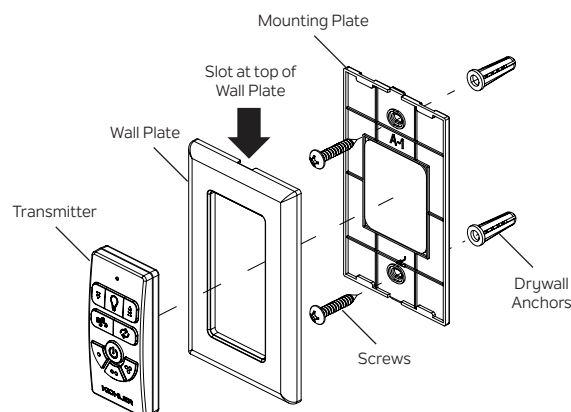

Fig. 8
Step 1. Remove the wall plate from the mounting plate (insert a small, flathead screwdriver into the slot at the top of the wall plate, and carefully pry the wall plate off of the mounting plate). (Fig. 8)
Step 6. Snap the wall plate in place onto the mounting plate. (Fig. 8)
Step 7. Insert the transmitter into the center of the wall plate, and it will magnetically attach to the mounting plate. (Fig. 8)